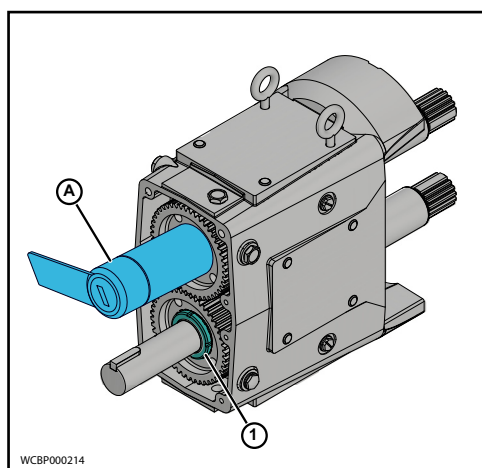

Figure 85 - Install Gear Locknut
6. Tighten the gear locknuts (1) to the specified torque, using a gear nut driver tool (A), as shown in Figure 85.